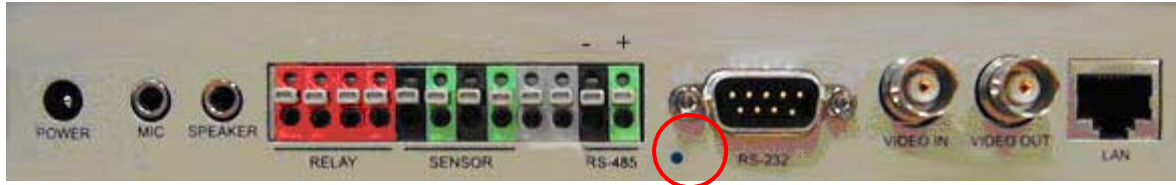

Figure 2-2. Rear Panel of NVS410
- **Reset** - Enable factory default setting. Doing so will erase all previously entered parameters and replace it with factory default settings. Not labeled for security reasons. Shown above in Figure 2-2 circled in red.